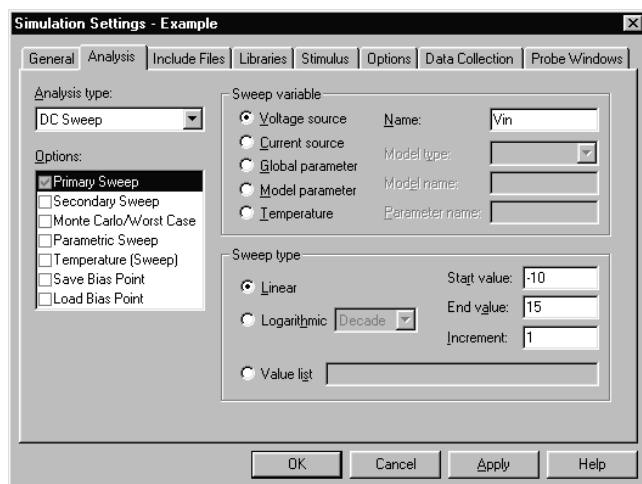

Figure 6 DC sweep analysis settings.
- 5 From the Analysis type list, select DC Sweep and enter the values shown in Figure 6.